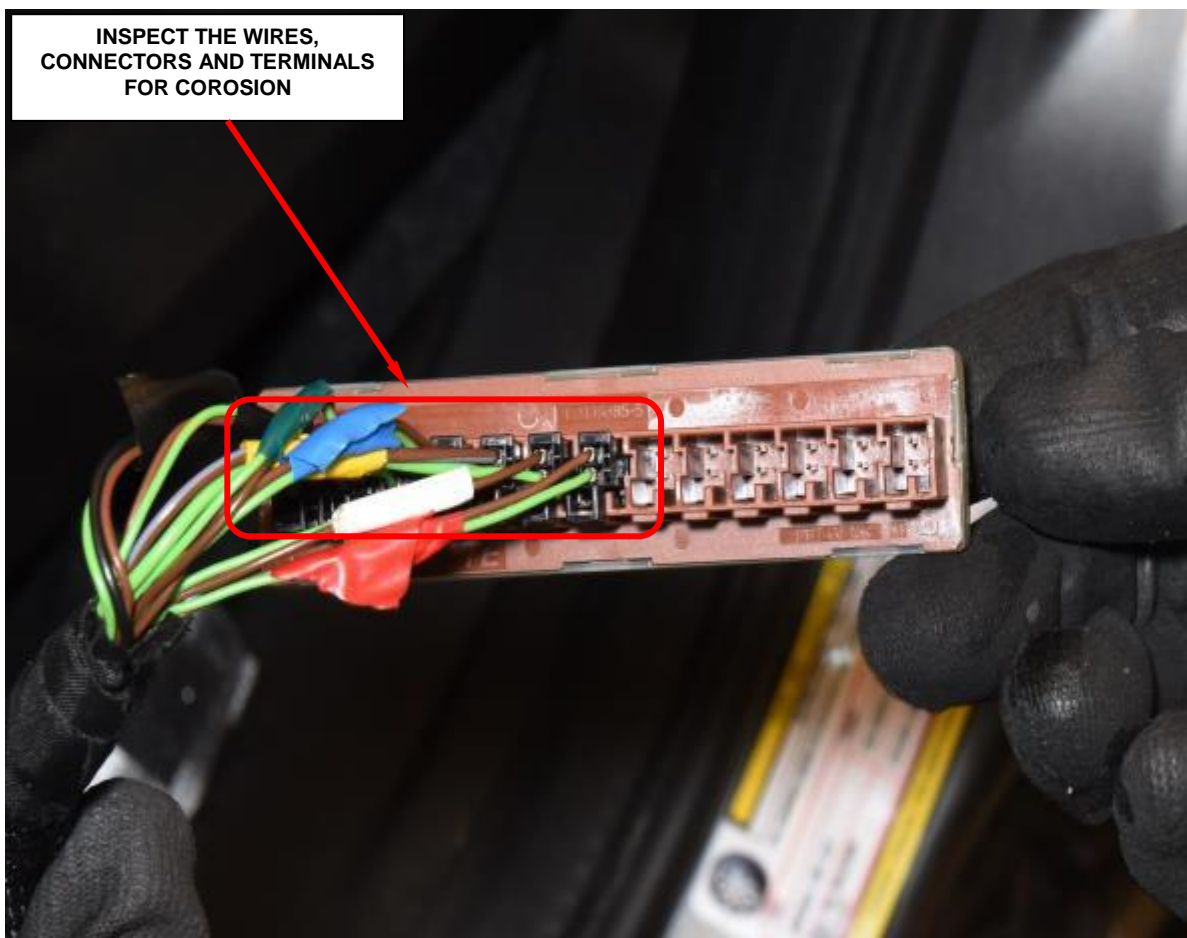

Figure 5 – Inspect for Corrosion
12. Inspect the CAN-C Bus Connector to assure there is no corrosion (Figure 5).